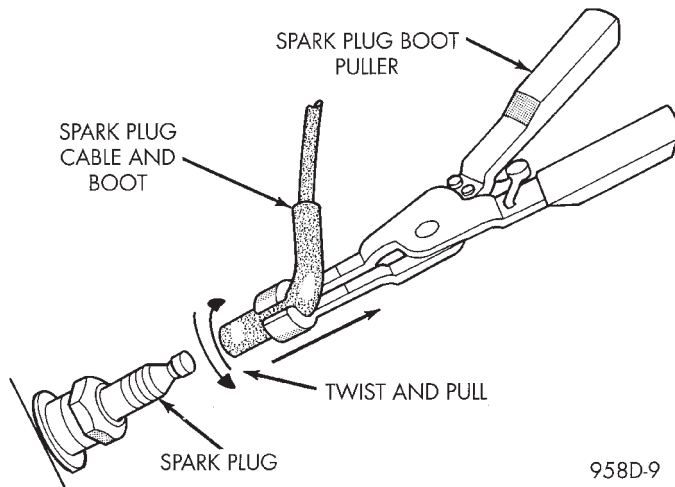

Fig. 26 Cable Removal
CAUTION: When disconnecting a high voltage cable from a spark plug or from the distributor cap, twist the rubber boot slightly (1/2 turn) to break it loose (Fig. 26). Grasp the boot (not the cable) and pull it off with a steady, even force.
(1) Always remove spark plug or ignition coil cables by grasping at the cable boot (Fig. 26). Turn the cable boot 1/2 turn and pull straight back in a steady motion. Never pull directly on the cable. Internal damage to cable will result.